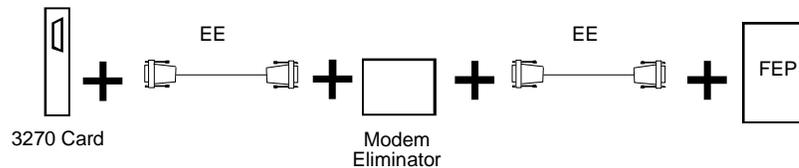

Figure E-7. 3270 Interface Connection Using a Modem Eliminator
- The modem eliminator (Figure E-7) is used for distances of 100 to 400 ft and must provide a DB-25 female connector.